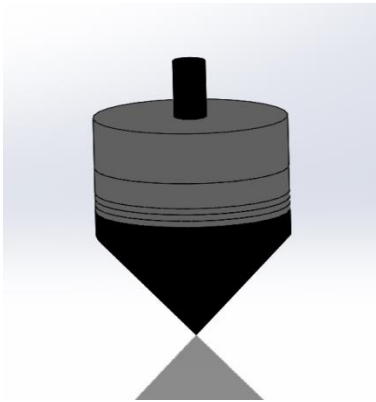

Figure 1
1. The speakers should come with cones for the bottom of your set up. Using one cone for each stand, place one  $\frac{1}{2}$ " spacer, one  $\frac{1}{4}$ " spacer, and three  $\frac{1}{16}$ " spacers on the stud of the cone, as shown in Figure 1. Screw the cone, with the spacers, into the threaded hole on the bottom of the stand.